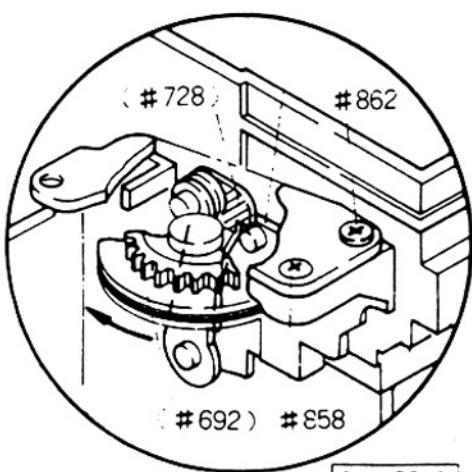

fig. 22-1
- 7) Lead wire B #1082, shutter switch (Orange) (fig. 22-1)
- 2) Rotate Winding roller (#692) clockwise until it contacts stopper (a part of #55; see fig. 22-1.)
Screw \oplus #858, \oplus #862 (fig. 22-1)